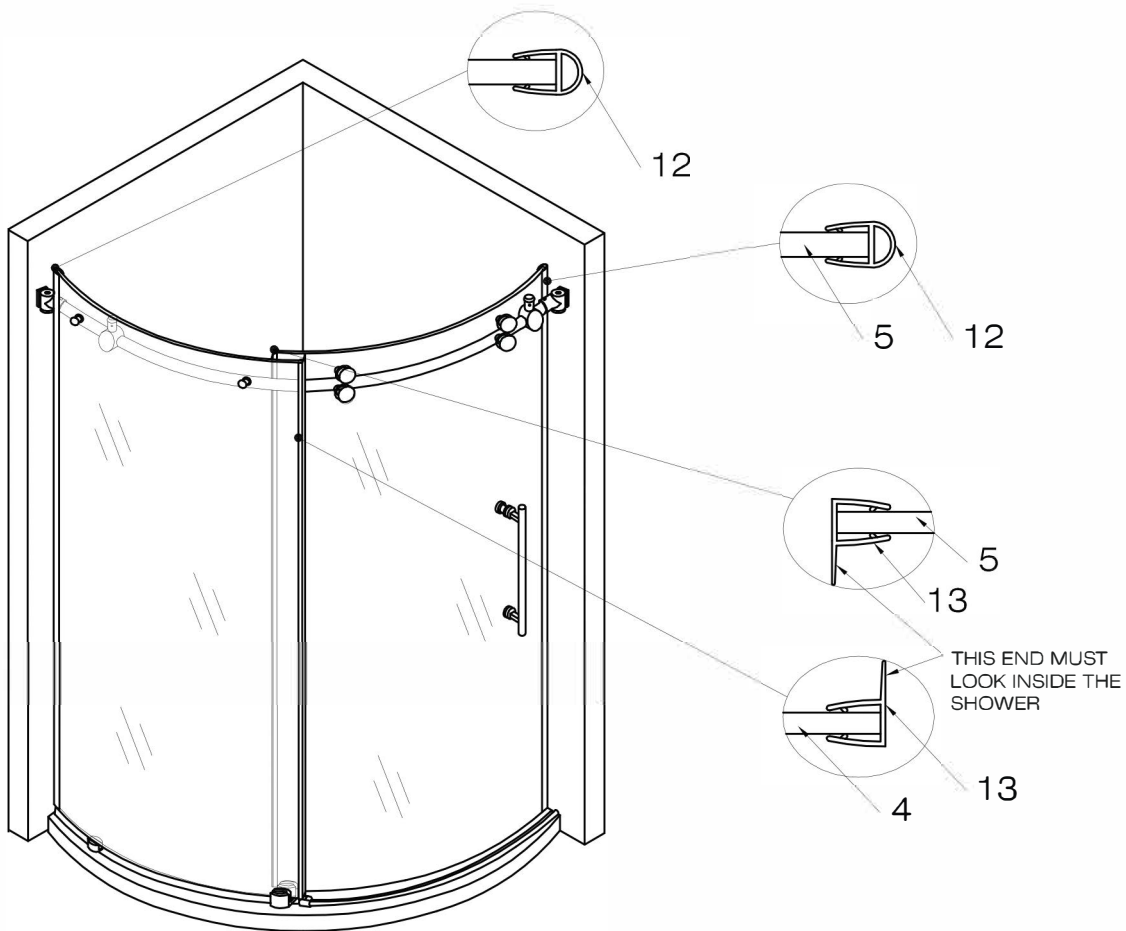

FIG. 10
1. Place seal strip to the door and to the glass, see FIG. 10, page 8.